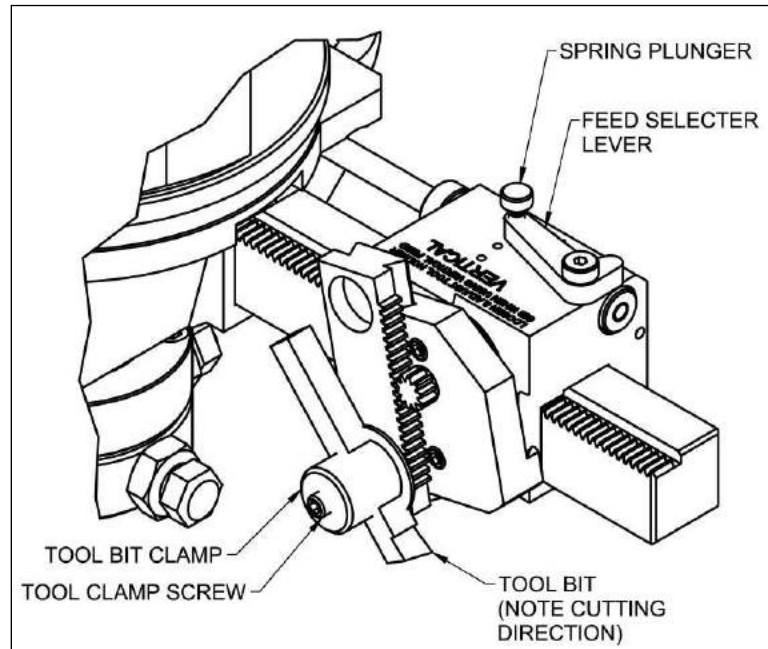

FIGURE 8. SETTING TOOL FEED
2. Pull up the spring plunger (see Figure 8).